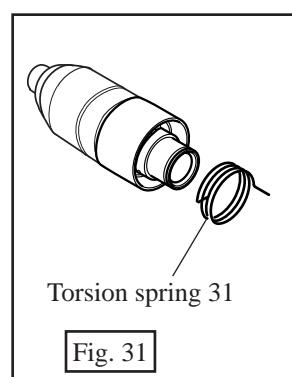

Fig. 31
- (4) Remove torsion spring 31 from chuck holder. See Fig. 31.